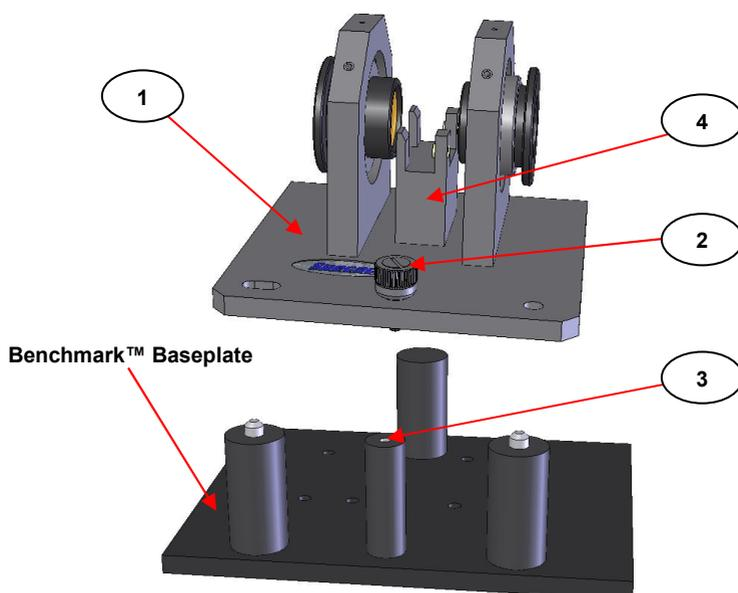

Fig 1. Microfocus Beam Condenser for Attachment to the Benchmark™ Baseplate
The microfocus beam condenser (1) itself is installed into the sample compartment of a spectrometer via use of the Benchmark™ type of mounting baseplate. The microfocus beam condenser is attached to the Benchmark™ baseplate via a front thumbscrew (2) fixing into the front central support post (3) of the Benchmark™ baseplate. The fixing slot and round hole at the front of the microfocus beam condenser align with the pin studs on the other two support posts at the front of the Benchmark™ baseplate and the thumb screw (2) is pushed down and turned clockwise to securely attach the accessory to the baseplate. (See Fig 1.)
On receipt of the microfocus beam condenser accessory alone or as part of the DC-3 Kit, a particular Benchmark™ baseplate will be provided that is suitable for use in the spectrometer system. Please consult the Benchmark™ baseplate installation guide provided to instruct how the Benchmark™ baseplate is correctly installed into the spectrometer sample compartment, prior to fixing of the microfocus beam condenser to baseplate as shown in Fig 1.